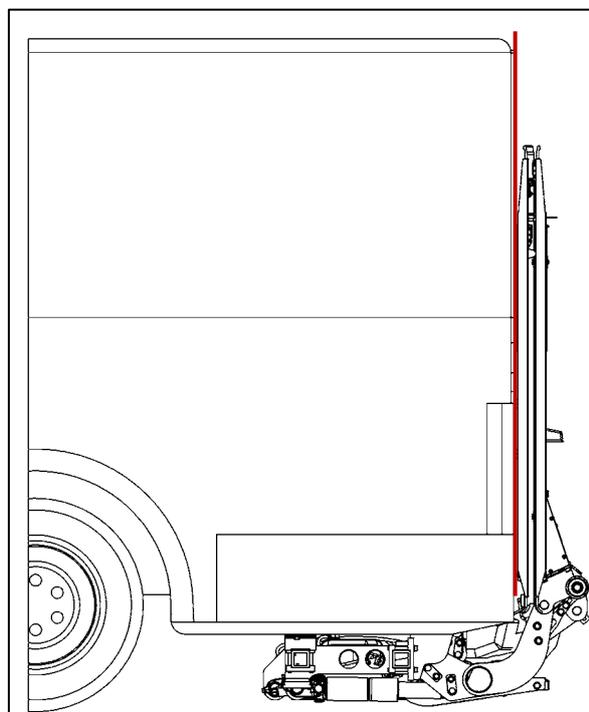

Figure 81
- When you reclose the platform, it will stand vertically behind the vehicle (see Fig. 81).